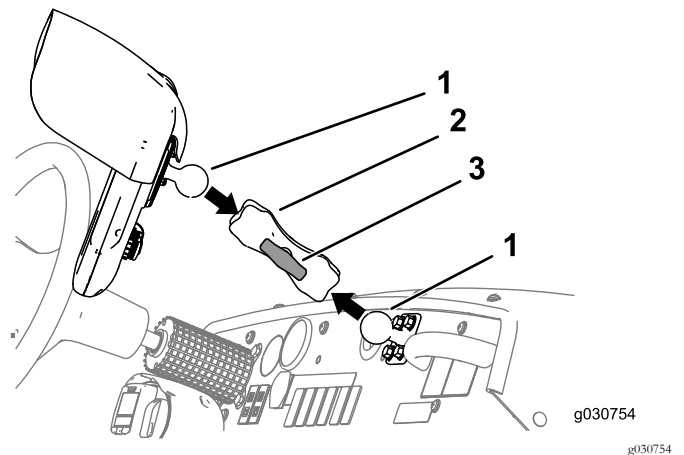

Figure 153
- Loosen the knob of the monitor arm until you can slip both the ball pivot for the fitting at the back of the sprayer monitor and the ball pivot for the mount at the dash panel into the socket monitor arm (Figure 153).
- From the driver's seat (left seat), adjust to position of the sprayer monitor so that you can easily view the display screen (Figure 153).
- Tighten the knob for the monitor arm by hand (Figure 153).